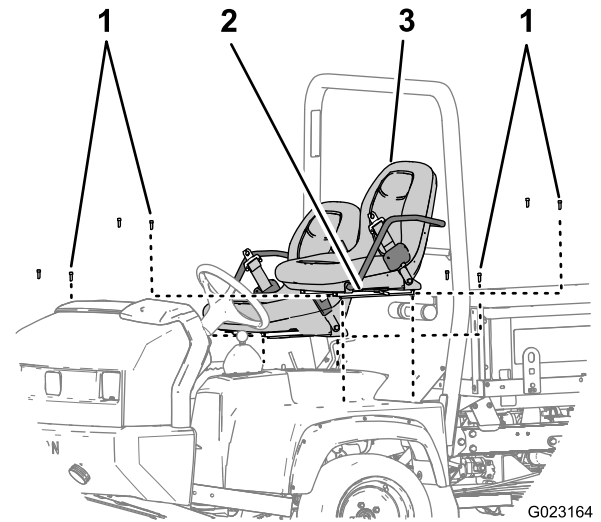

Figure 9
1. Remove the 8 socket-head bolts that secure the seat rails of the seat to the chassis and remove the seats (Figure 9).
2. Repeat step 1 for the other seat (Figure 9).